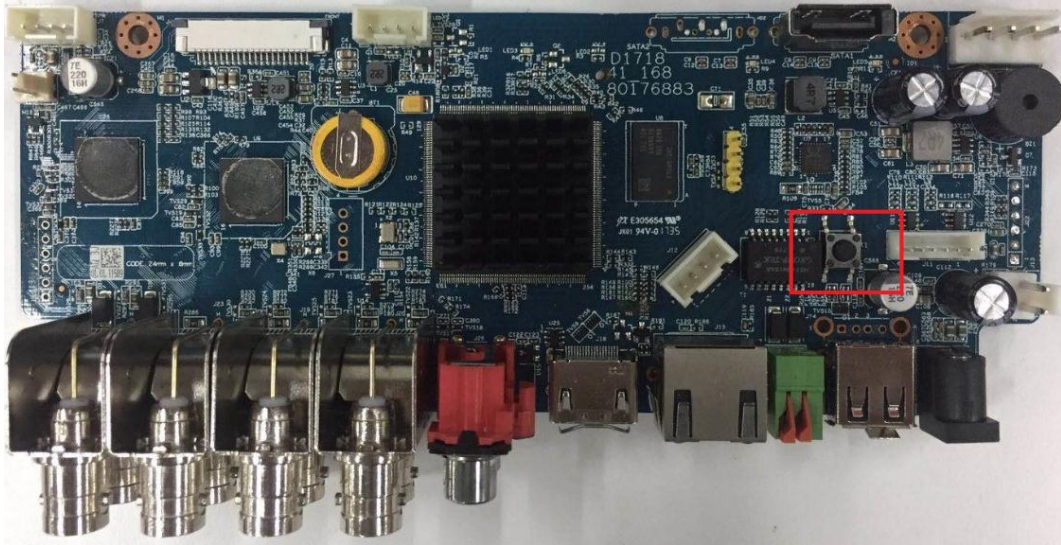

Figure 5-17
**Step 2** Find the reset button on the mainboard, and then press and hold the reset button for 5 seconds to 10 seconds. See Figure 5-17 for the location of the reset button.